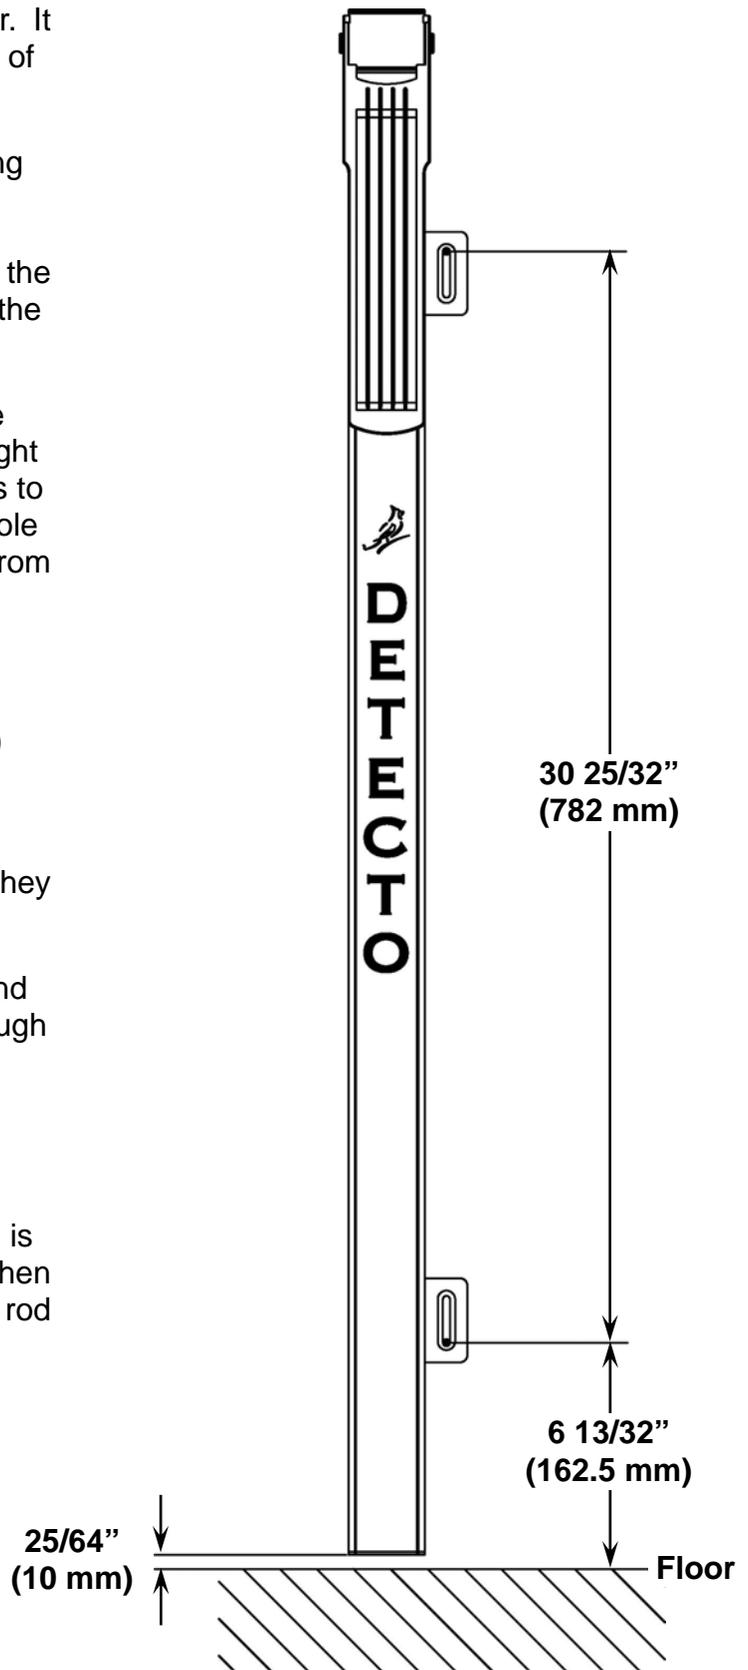

Figure No. 1
3. Referring to Figure No. 1 and using the height rod as a template, place the height rod against the wall and mark the holes to use to mount it. The lower mounting hole should be  $6 \frac{13}{32}$  inches (162.5 mm) from the floor and the upper mounting hole should be  $30 \frac{25}{32}$  inches (782.0 mm) from the lower hole.
4. Remove the height rod and drill two (2)  $\frac{13}{64}$ " (5 mm) holes in the wall for the mounting wall anchors.
6. Place the height rod against the wall and insert the two (2) M3.0x25 screws through the bracket and into the wall anchors.